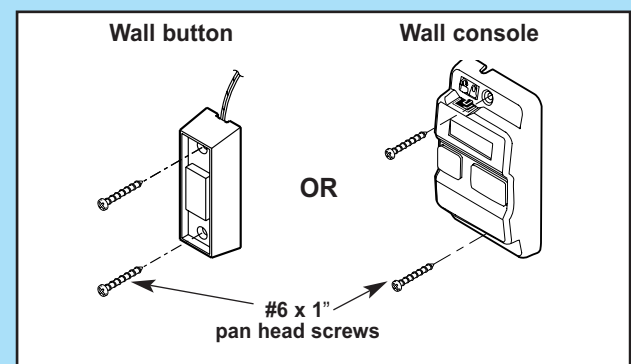

Fig. 4-2
4. Mount wall control (Fig. 4-2).